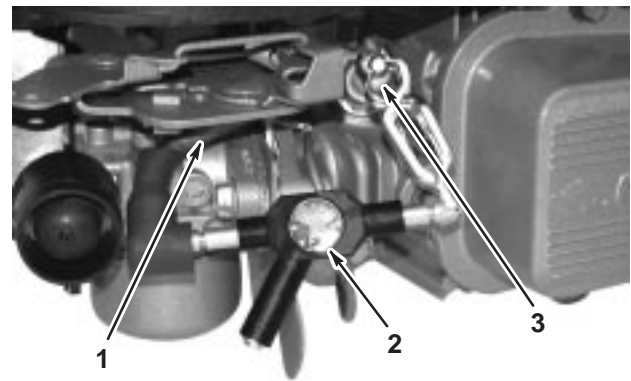

Fig. 10 – Running Check
1. Install Briggs & Stratton Tool #19051 or #19368, Spark Tester, in series with spark plug lead and spark plug, Fig. 10.